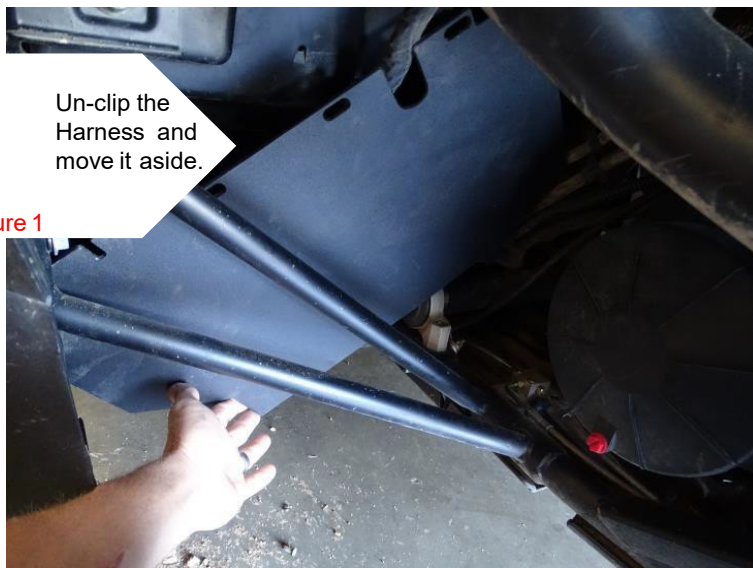

Figure 1
- 1) Un-clip the main harness and move it to the right side (**Figure 1**).